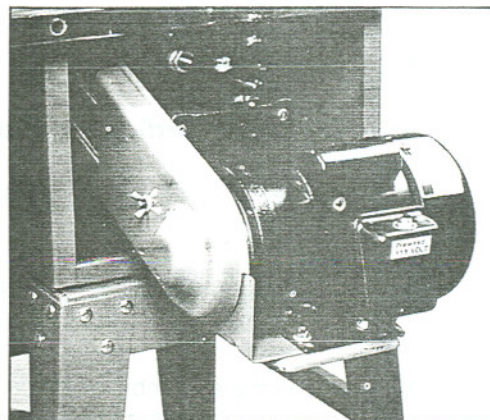

Fig. 25
4. Fasten the belt cover to the belt cover plate with a M8 flat washer and M8 wing nut. (Fig. 25)